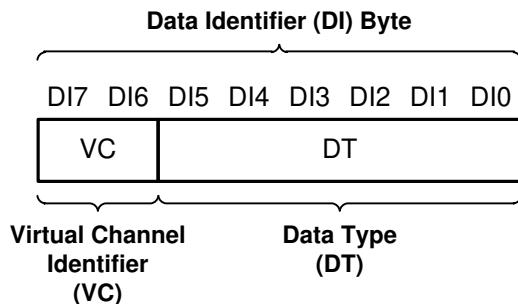

Figure 8-10. CSI-2 Data Identifier Structure
The deserializer MIPI CSI-2 protocol interface transmits the data identifier byte containing the values for the virtual channel ID (VC) and data type (DT) for the application specific payload data, as shown in Figure 8-10. The least significant 2-bit of the virtual channel ID is contained in the 2 MSbs of the data identifier byte, and the most significant 2-bit of the virtual channel ID is in the VCX field in the long packet. The receiver extract the virtual channel ID from the data identifier and VCX. The value of the data type is contained in the 6 LSbs of the data identifier byte.